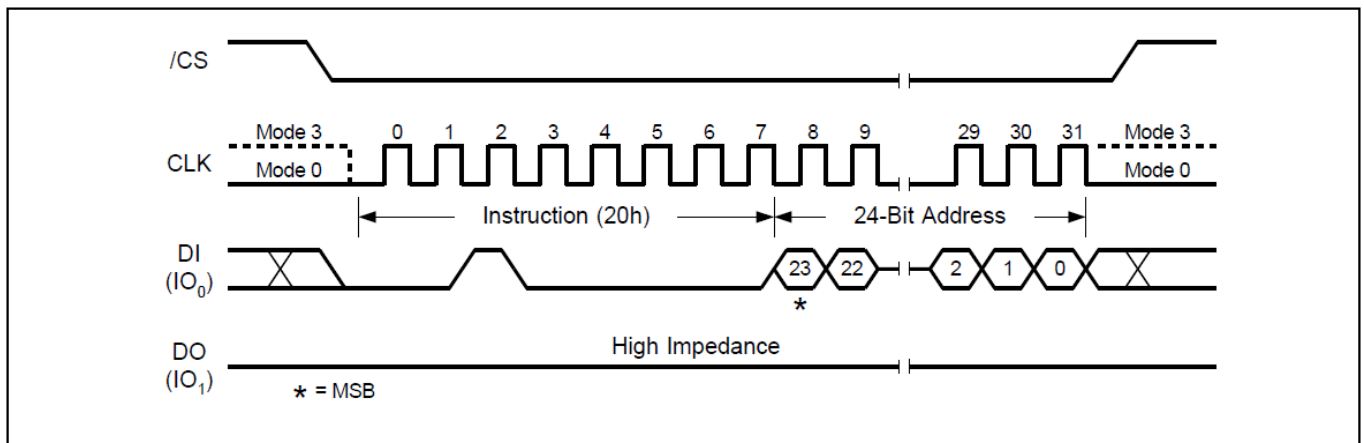

Figure15. Sector Erase Sequence Diagram
The Sector Erase command sequence: CS# goes low → sending Sector Erase command → 3-byte address on DI → CS# goes high. The command sequence is shown in Figure15. CS# must be driven high after the eighth bit of the last address byte has been latched in; otherwise the Sector Erase (SE) command is not executed. As soon as CS# is driven high, the self-timed Sector Erase cycle (whose duration is Tse) is initiated. While the Sector Erase cycle is in progress, the Status Register may be read to check the value of the Write in Progress (BUSY) bit. The Write in Progress (BUSY) bit is 1 during the self-timed Sector Erase cycle, and is 0 when it is completed. At some unspecified time before the cycle is completed, the Write Enable Latch (WEL) bit is reset. A Sector Erase (SE) command applied to a sector which is protected by the Block Protect (CMP, SEC, TB, BP2, BP1, and BP0) bit is not executed.